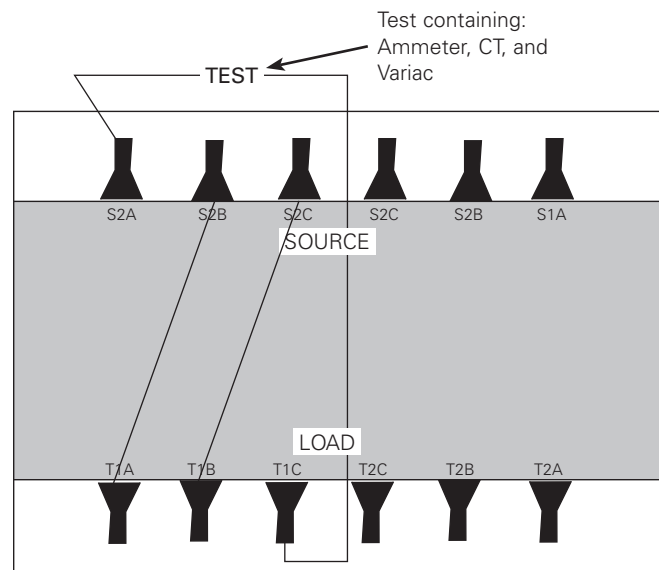

Figure 4. Typical padmount unit in three-phase test
5. Connect a 120Vac Voltage source (Variac) to the 5 Amp (secondary) side of a 600:5 Current Transformer (See Figure 4).
4. Adjust current source to 65 Amperes, as shown in Figures 4 and 6.
2. Install current source between A and B Phase on the source side (See Figures 4, 6 and 8).
2. Install current source between A and C Phase on the Source side (See Figures 4, 6, and 9).
2. Install current source between B and C Phase on the source side (See Figures 4,6, and 10).